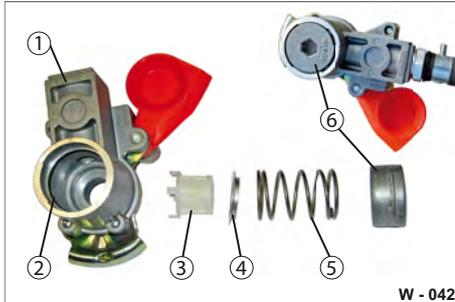

Fig. 46 Coupling head disassembled
- ▶ Press in the cover (Fig. 46/6) with a hexagon socket up to the limit position in the housing (Fig. 46/1). Turn the hexagon socket key by 90°. The cover opens.
- ▶ Remove the spring (Fig. 46/5), the metal ring (Fig. 46/4) and the filter (Fig. 46/3) from the housing.
- ▶ Check if the seal (Fig. 46/2) is present or damaged.